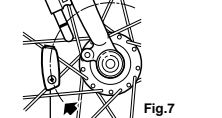

Fig.7
1. Align the center of the magnet and the marking line of the sensor. (Fig.7)